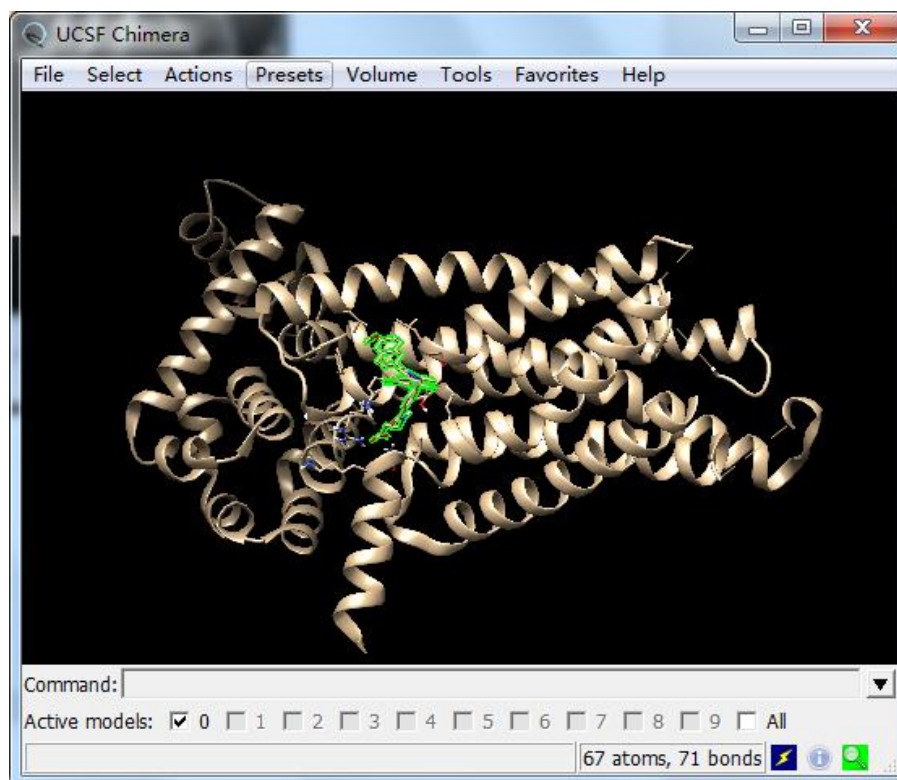

Figure 14. Selecting ligand coordinates.
1. Close session (File→Close Session) and reload the GCGRH.pdb, then select the ligand (see Figure 14):